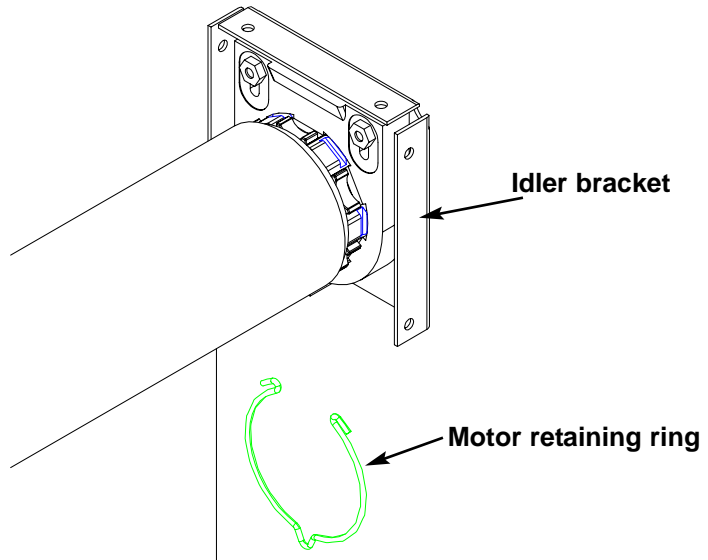

Figure 3. Securing the motor with the retaining ring
1. Insert the spring-loaded idler end of the shade roller assembly into the idler bracket. **Note:** In Figure 3, the shade may appear to be unrolled slightly, but the shade should be completely rolled up when installing.
3. Position the star-shaped motor head into the motor bracket. Refer to Figure 3. The shade should be completely rolled up with the shade hem bar level with the bottom of the mounting brackets. The motor should be positioned so that the limit